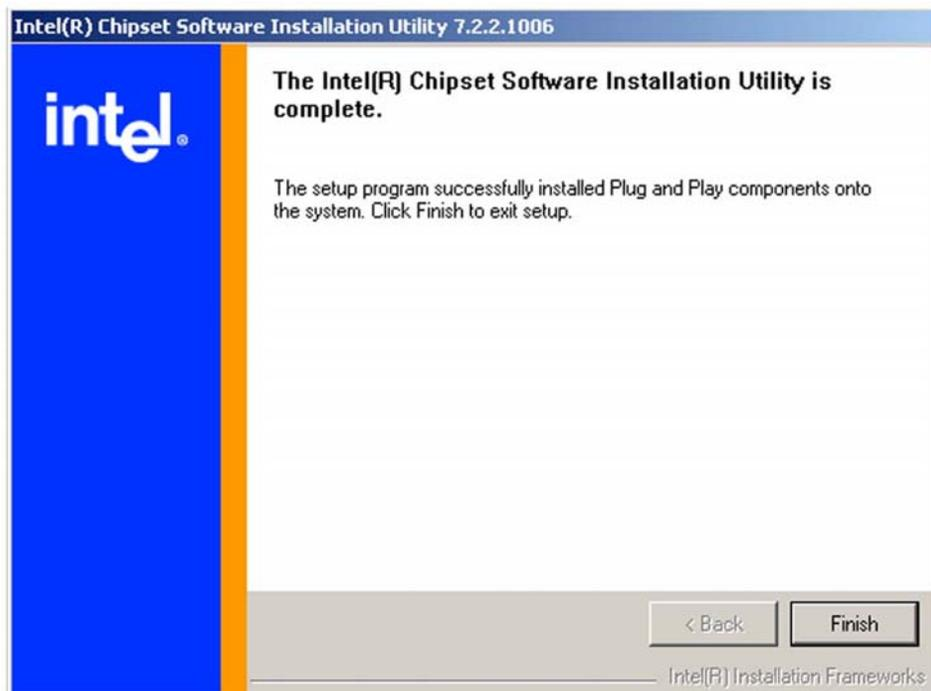

Figure 6-4: Chipset Driver Installation Complete
- Step 6:** After the driver installation process is complete, a confirmation screen shown in **Figure 6-4** will appear.